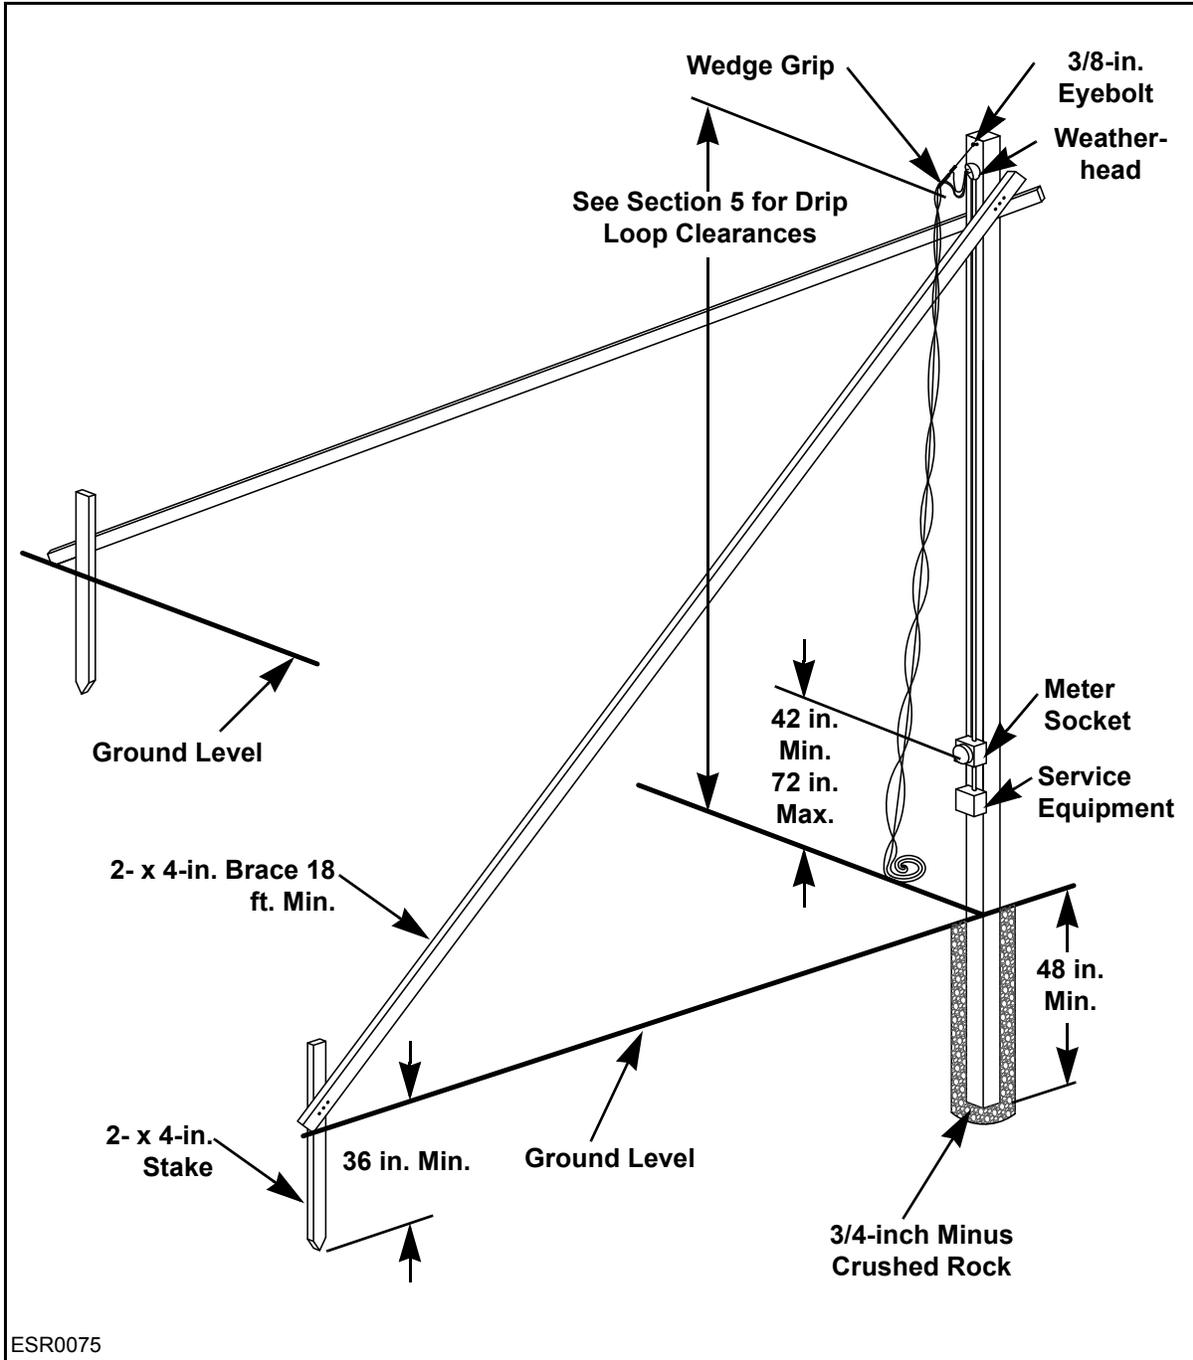

Figure 4-2: 6- x 6-inch Overhead Service Post in a Road or Traffic Crossing
- See **Figure 4-2** for an overhead service in a road or traffic crossing.
An overhead post in a road or traffic crossing is shown in **Figure 4-2**.